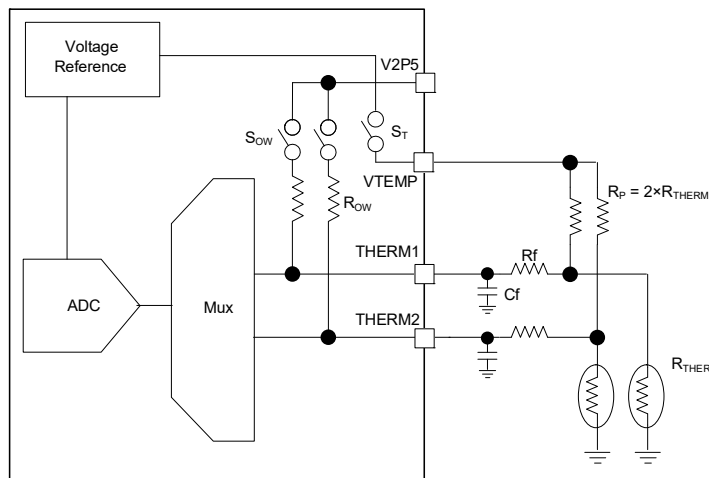

Figure 42. Thermistor Pin Configuration
THERM pins (22, 24) are analog voltage inputs that connect to external thermistor circuitry. These pins are optimized to work with an external NTC thermistors to monitor the temperature of the battery pack. The thermistors are biased by the VTEMP regulator pin (23), as shown in Figure 42.